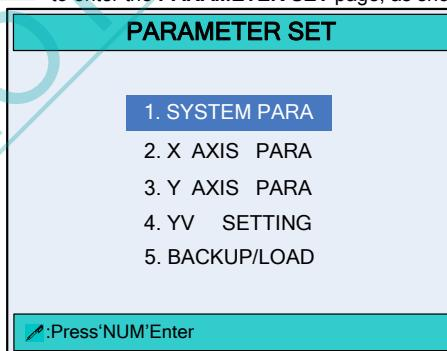

Figure 3-5 The **PARAMETER SET** page
Step 3 Move the cursor to parameter mm/inch or 中文/English, enter the password **14789**, and press to enter the **PARAMETER SET** page, as shown in Figure 3-5.